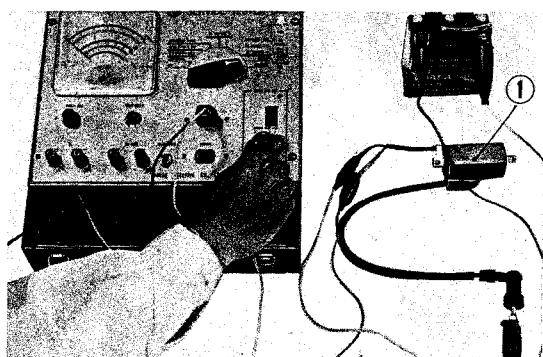
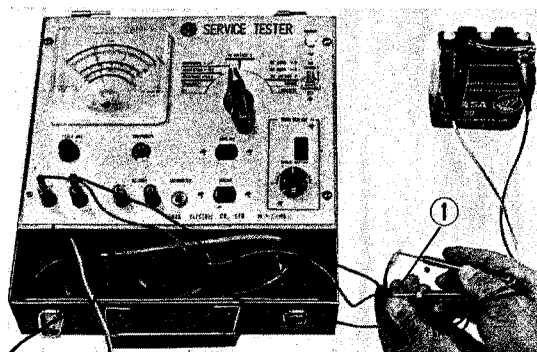

Fig. 156 Ignition coil test
Fig. 158 Condenser test
- ① Perform functional test of the ignition coil to determine its condition. When poor starting is experienced, the cause may also be found by testing the spark plug, contact breaker points, condenser, etc.
- ② Check the ignition coil using the service tester.
- ③ Connect the battery power source to the tester and ground the grounding lead. (Fig. 156)
① Separator plate ② Cathode plate ③ Separator plate ④ Glass mat ⑤ Anode plate
- ④ Connect the ignition primary cord to the tester and connect the opposite terminal end to the primary terminal of the coil. Connect the white lead with (∧) type plug to the blue terminal of the ignition coil (primary side) and the red tester lead to the black terminal of the ignition coil. (Fig. 156)
- ⑤ Connect the red tester high tension cord to the high tension cord of the ignition coil.
- ⑥ Turn the selector knob to the COIL TEST position.
- ⑦ Adjust the three point spark tester to maintain maximum distance of spark by turning the control knob while observing the spark condition and then measure the spark distance.
- ⑧ If the spark plug distance is less than 6 mm (0.24 in.), the spark plug is un-serviceable.
2) Condenser test (Fig. 158)